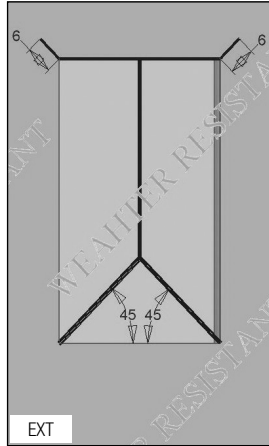

FIG. 3
- G) Cut the weather-resistant barrier (WRB) in a "Modified I" pattern shown below. (Fig. 3)